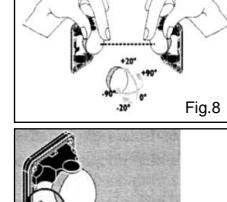
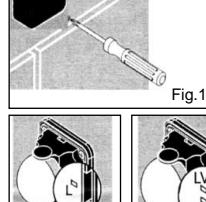

Fig.8
Fig.11
- after having completed the electrical wiring (fig. 7a and 7b) and adjustments (fig. 8, 9 and 10) attach the cover using the screws provided (fig. 11)
Align the transmitter and receiver so that a beam is created (fig. 8). The red LED LR will go out (fig. 14).